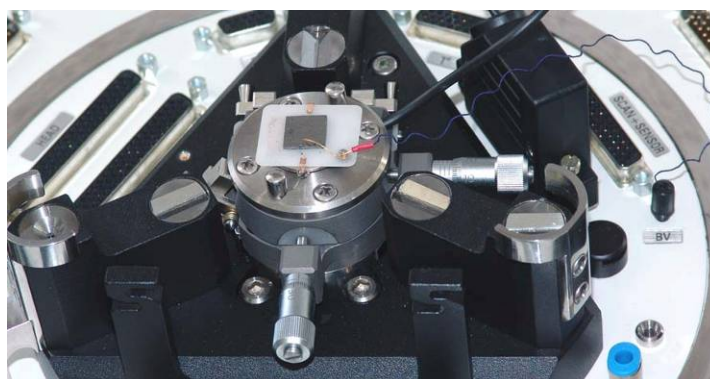

Fig. 11-3. Installing a sample
5. Install the substrate with the sample on the sample stage, sliding it in sideways under the fixing clips. The spring contact should be seen during insertion (Fig. 11-3). Make sure that the spring contact does not touch any metal parts of the tip holder.
6. Insert the voltage terminal into **BV** connector on the base unit (see Fig. 11-3).